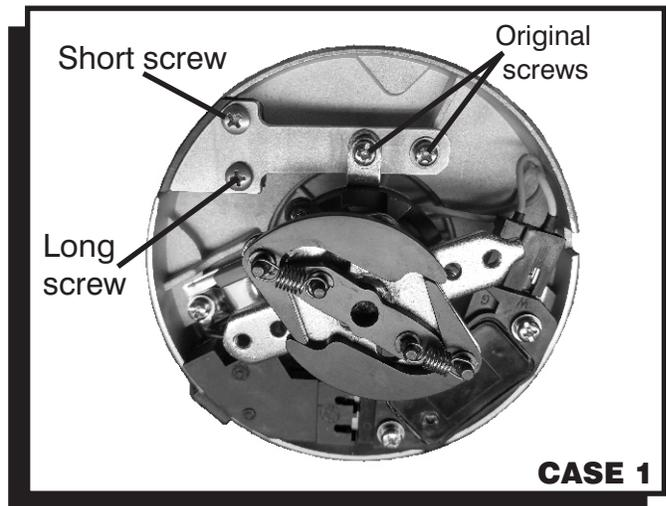

Figure 5.
6. CASE 1. Re-use the original screws of the vacuum advance to secure the back part of the lockout plate to the distributor base and the pickup. Use the short and long provided screws to secure the cover and the front part of the lockout plate to the distributor base (Figure 5).